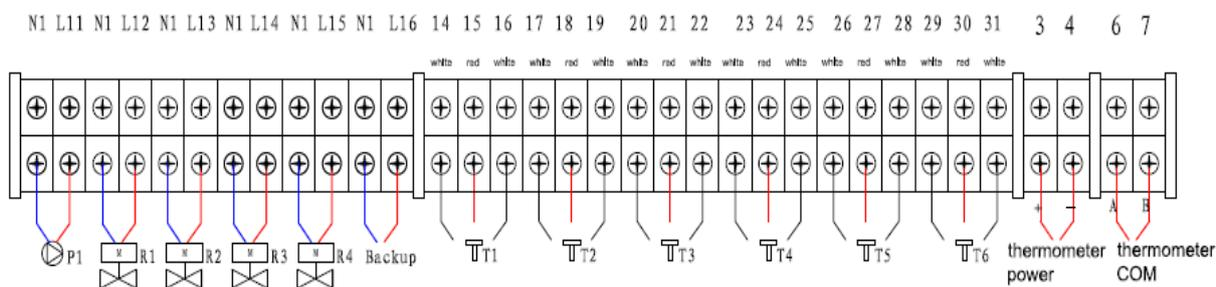

Fig. 2 Wire Connections
- 5 temperature sensors to be connected as Fig. 2.